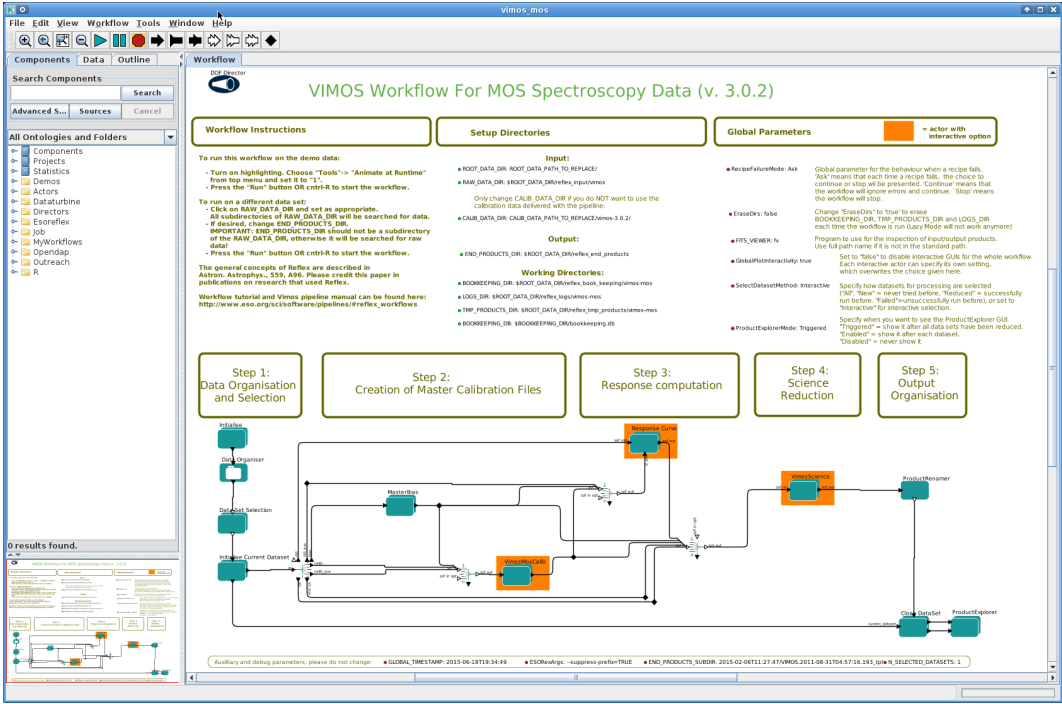

Figure 4.2: VIMOS/MOS workflow general layout.
2. Now open the VIMOS workflow by clicking on File -> Open File, selecting first vimos-3.1.1 and then the file VimosMos.xml in the file browser. You will be presented with the workflow canvas shown in Figure 4.2. Note that the workflow will appear as a canvas in a new window.